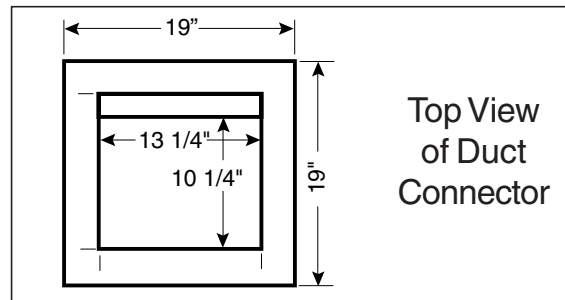

Figure 4.
- Locate center of the floor opening, measured 10" from the rear wall, and mark cut-out measuring approximately 14-1/2" by 14-1/2" ($\pm 1"$) for model duct connector used (refer to Figures 4 & 5).